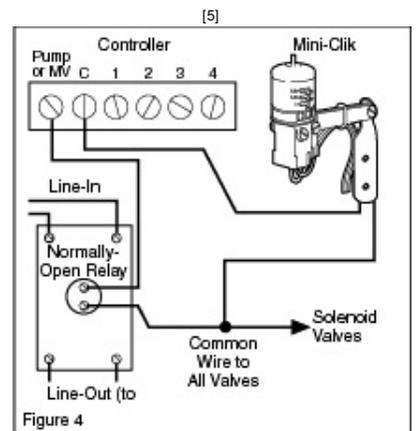

Figure 4
24 Volt Solenoid Valves (with Booster Pump) (See Figure 4)
- [6] http://www.hunterindustries.com/sites/default/files/ts_miniclik_fig4.gif